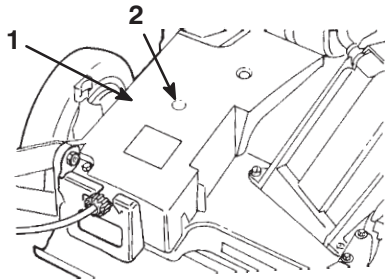

Figure 33
2. Install a grease gun onto the fitting through the belt cover opening (Fig. 33).